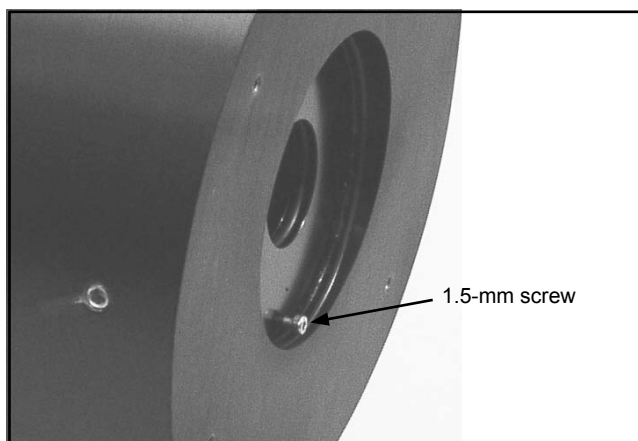

Fig. 6.3
2. Replace the 1.5-mm screw in base of recess (Fig. 6.3). The socket headcap screw is used as locator for the pinna.